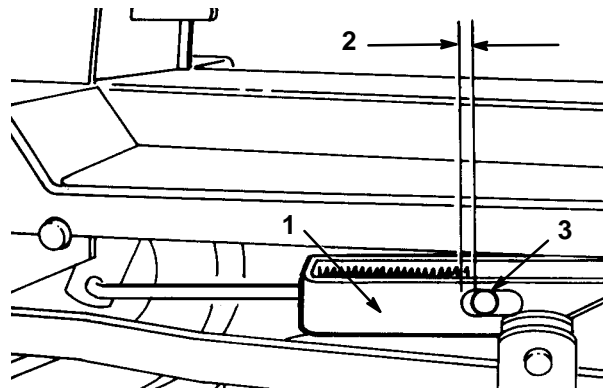

Figure 34
3. Rotate adjustment rod until there is 0.060 inch (1.5 mm) or less between end of slot in engagement bracket and outer diameter of pin (Fig. 34).